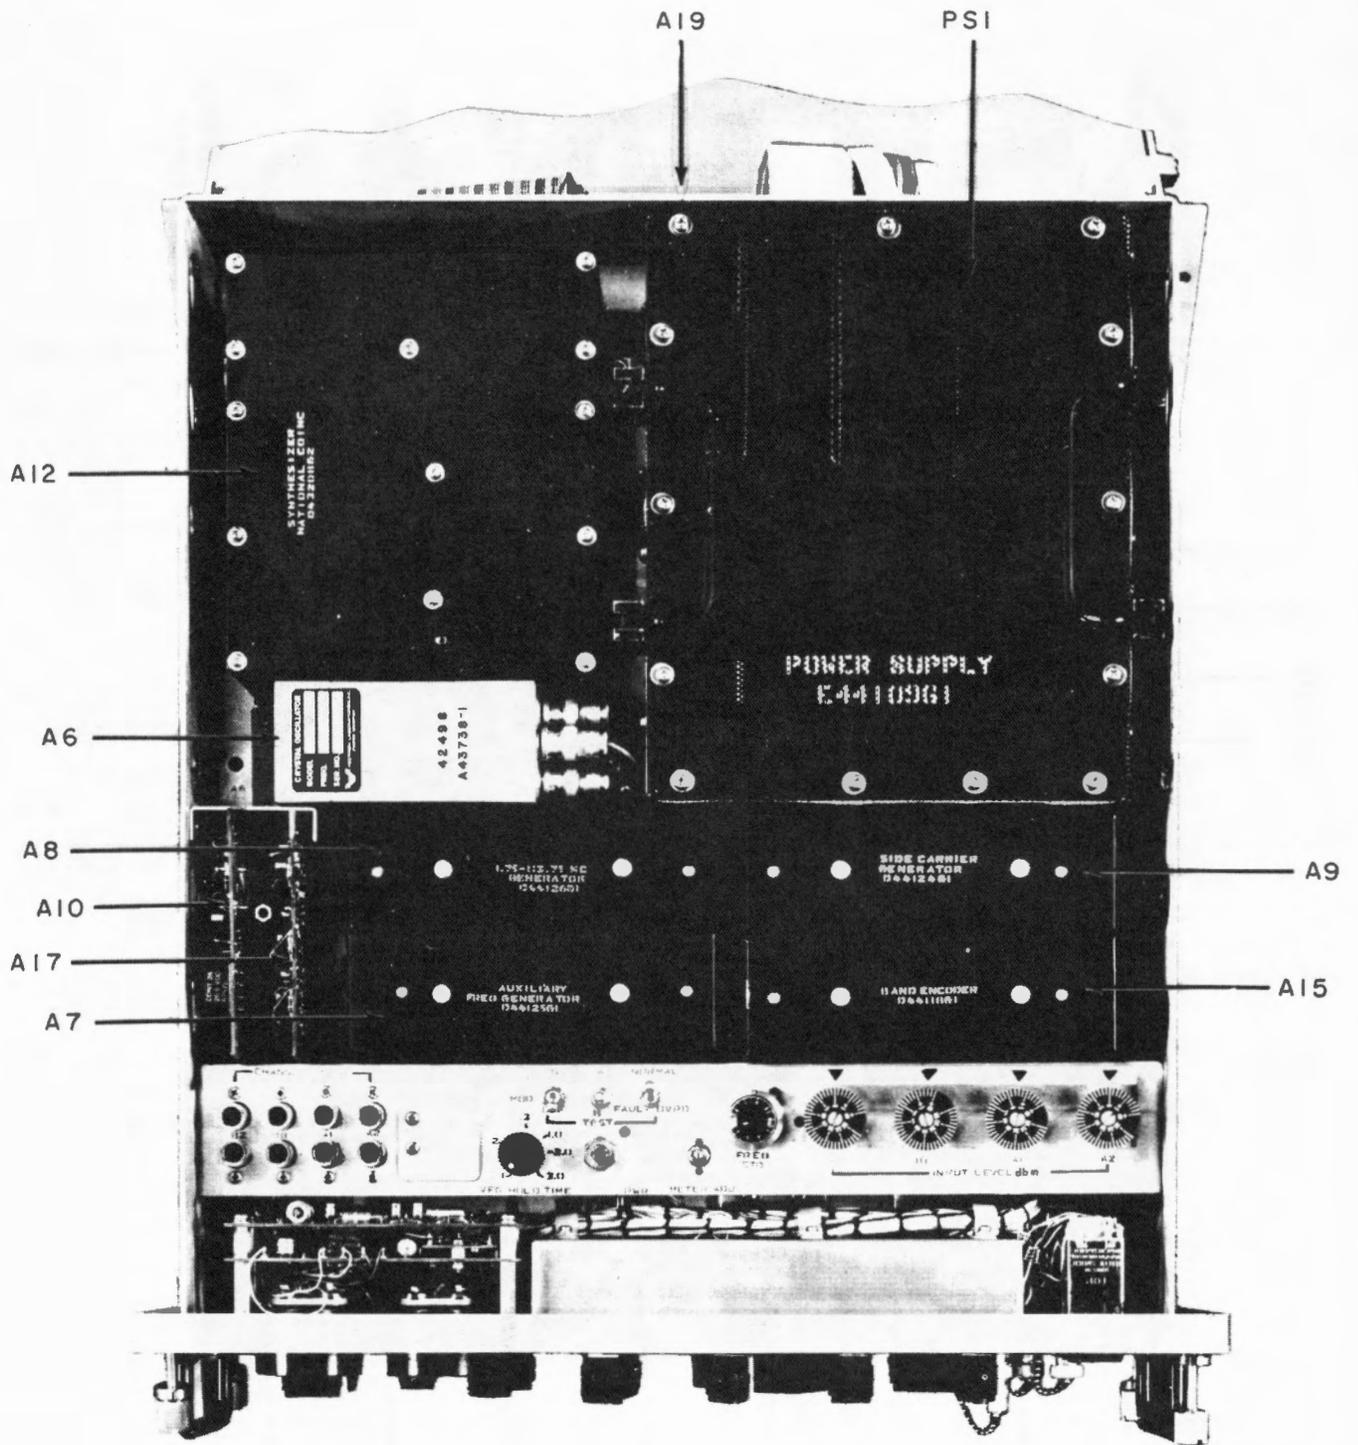

Figure 5-1. Modulator-Synthesizer MD-777/FRT, Top View Case Removed
(3) PLUG-IN PRINTED-CIRCUIT BOARDS. - Transmitter control boards nos. 1 and 2 (A10 and A17) plug into transmitter control board A18A4. Unsoldering and resoldering of terminal leads is unnecessary for these circuit boards. See figures 5-1 and 5-2.
a. PART LOCATION ILLUSTRATIONS. - Figures 5-1 through 5-61 are the part location illustrations. They identify the relative location of all parts, circuit elements, and test points within the equipment.